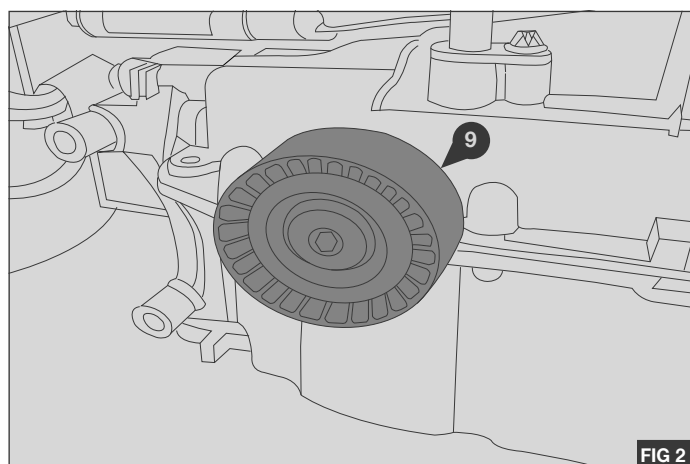
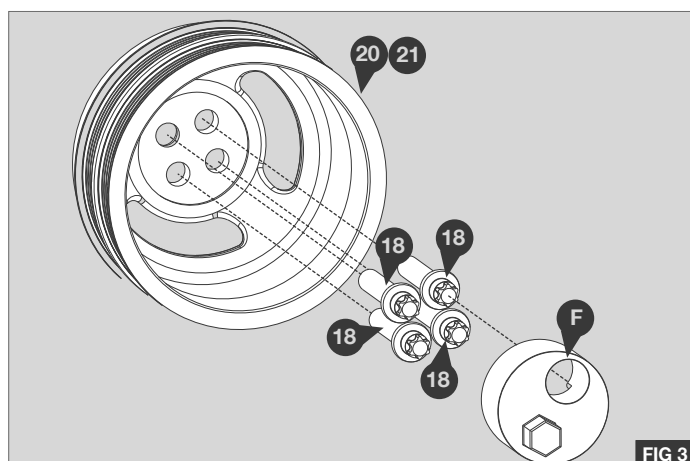

FIG 2
FIG 3
NB: Crankshaft locking tool is required for this operation (Mercedes tool No 651 589 00 40 00) (F) - Fig 2
4. Remove and discard original crank pulley (E)
5. Using the supplied pulley (9) cut a thread into the hole on the engine casing - Fig 2
NB: The pulley bolt has a Trilobular thread and will cut the thread - Fig 2
1. Fit new crankshaft pulley (20) or (21) (Not Supplied and dependant on the engine power rating) with new bolts (18) (Not supplied) - Fig 3
2. Torque bolts (18) to 80 Nm / 59 lb ft + 90